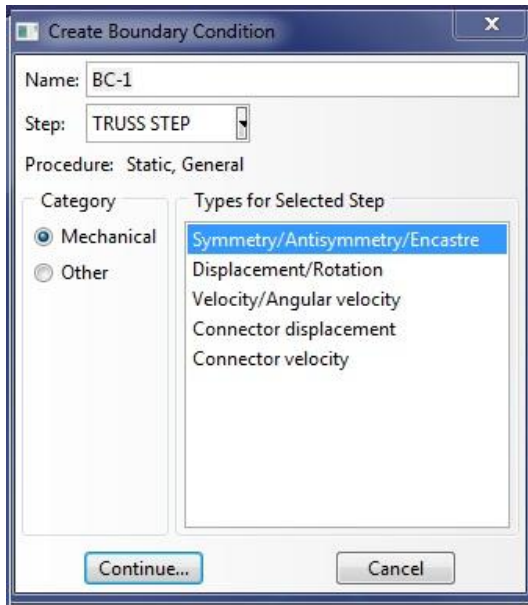
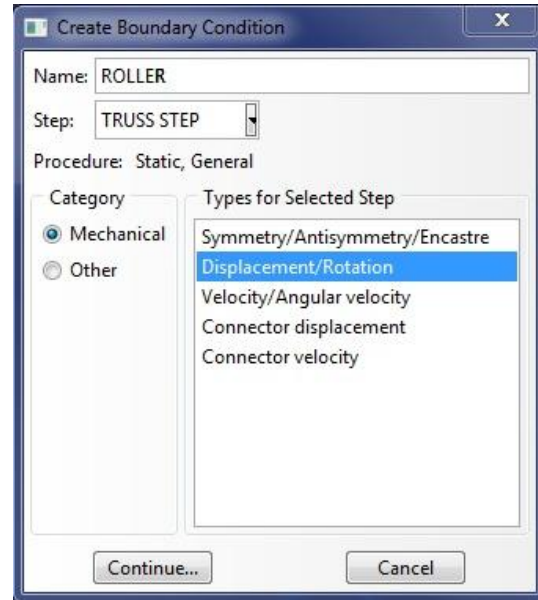

Figure 26a. Create Boundary Condition
Figure 26b. Create Boundary Condition (ROLLER)
- Double click the **BCs** icon in the model tree and the **Create Boundary Condition** dialog box will appear (Figure 26a). Create a **Name** for the boundary condition called **ROLLER**, under the **Category** option choose **Mechanical**, and choose **Displacement/Rotation** under the **Types for Selected Step** option. The Create Boundary Condition dialog box should look identical to that in Figure 26b.